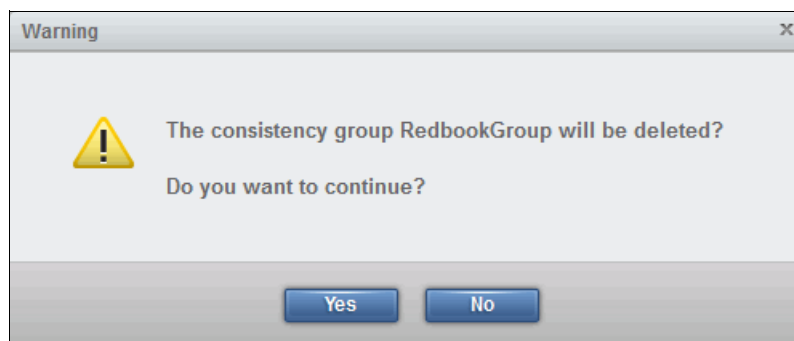

Figure 10-146 Warning to confirm deletion of the consistency group
2. You must confirm the deletion of the consistency group, as shown in Figure 10-146. Click **Yes** if you are sure that this consistency group should be deleted.